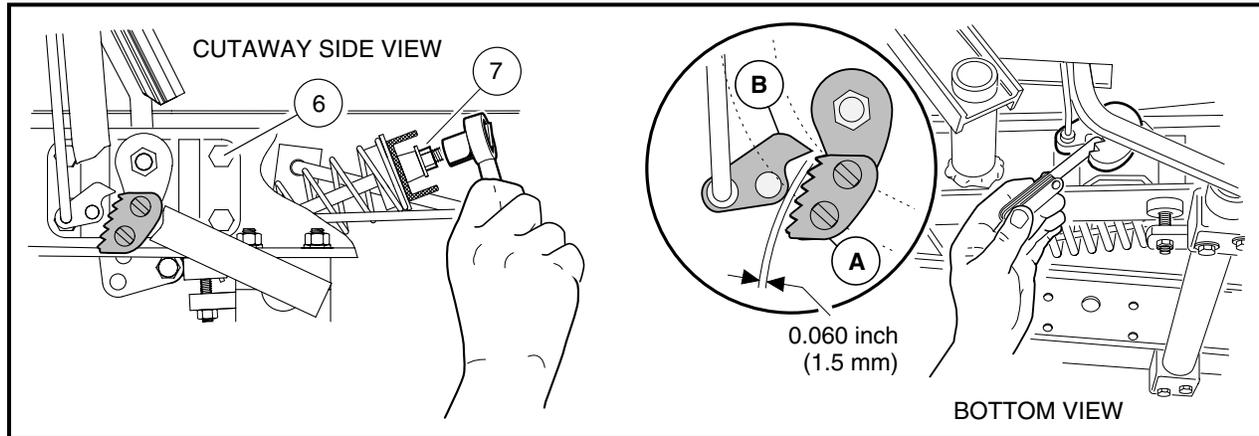

Figure 5-16 Park Brake Ratchet/Pawl Gap Adjustment
- 4.2. Adjust retaining nut (7) on spring support rod until there is a 0.060 inch (1.5 mm) gap between the pawl and the tips of the ratchet teeth. Use a feeler gauge to verify the gap (**Figure 5-16, Page 5-14**). The gap should be consistent through range of pawl movement. If the gap is not consistent, loosen the four bolts (6) securing the accelerator pivot rod supports and adjust the supports. If the gap becomes smaller as the park brake pedal is pressed, move the pivot rod supports slightly rearward until the gap is consistent. If the gap becomes larger as the park brake pedal is pressed, move the pivot rod supports slightly forward until gap is consistent. **See following NOTE.**